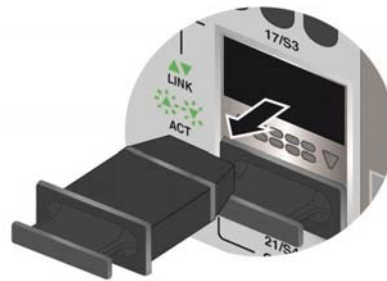

Figure 55. Removing the Dust Cover from Slot 17
1. Remove the dust covers from QSFP+ slots 17 and 21 from one of the switches to be in the stack. Refer to Figure 55.
1. Remove the dust cover from the QSFP+ slot 17 in one of the x550 Switches. Refer to Figure 55.